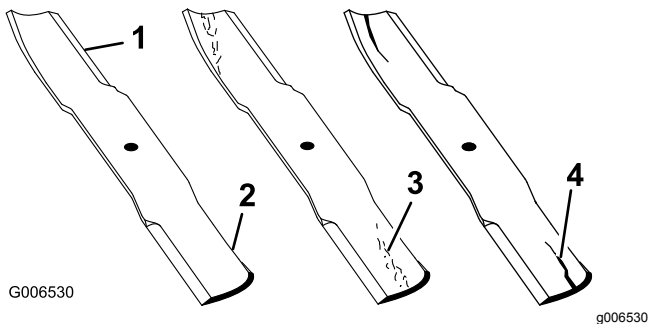

Figure 90
1. Inspect the cutting edges (Figure 90). If the edges are not sharp or have nicks, remove and sharpen the blades. Refer to Servicing the Cutting Blades (page 59).
2. Inspect the blades, especially the curved area (Figure 90). If you notice any damage, wear, or a slot forming in this area (Figure 90), immediately install a new blade.